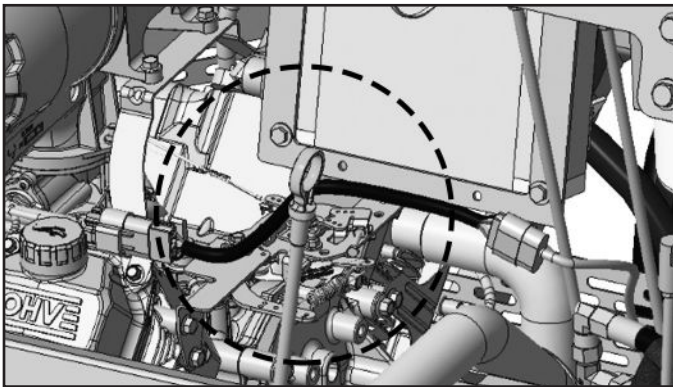

Figure 1: Oil dipstick location
3. Before starting the ABI Force make sure to check the engine oil and hydraulic system levels on the unit. The engine oil dipstick is located inside the knee pad of the ABI Force. Refer to **Figure 1** for reference or see to the maintenance section of the Kohler Engine Manual for information. Engines are factory filled with SAE 30w oil to facilitate break in during the first 25 hours of operation.